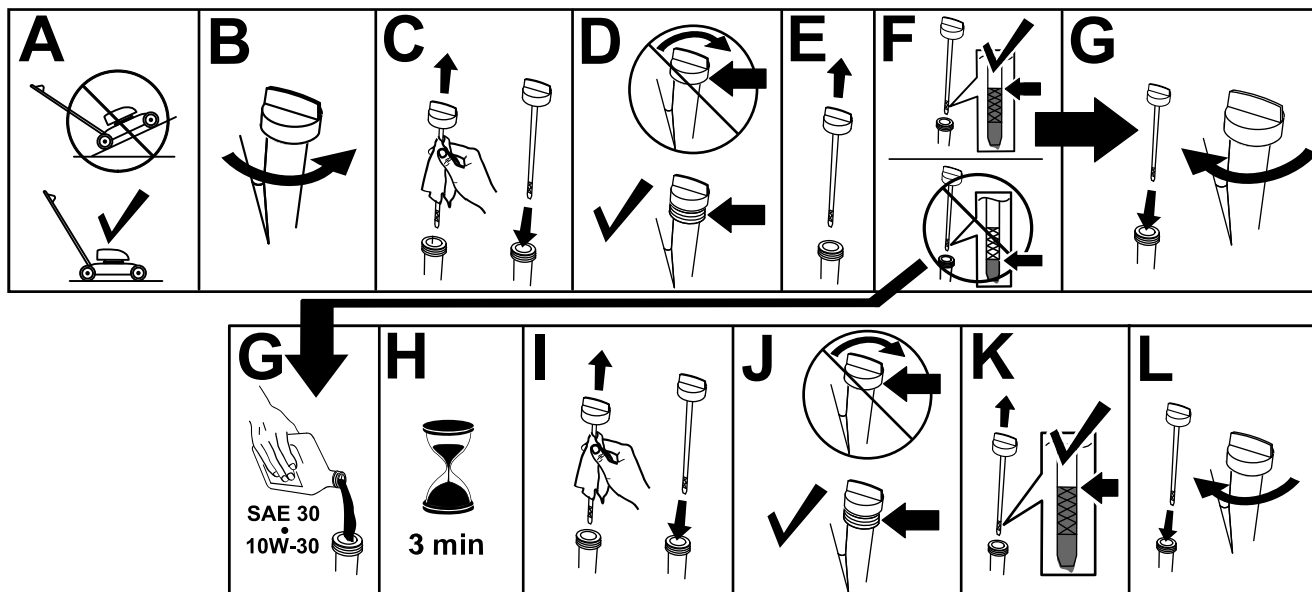

Figure 11
1. Raise and hold up the rear deflector (A of Figure 11).
2. Install the grass bag, ensuring that the pins on the bag rest in the notches on the handle (B of Figure 11).